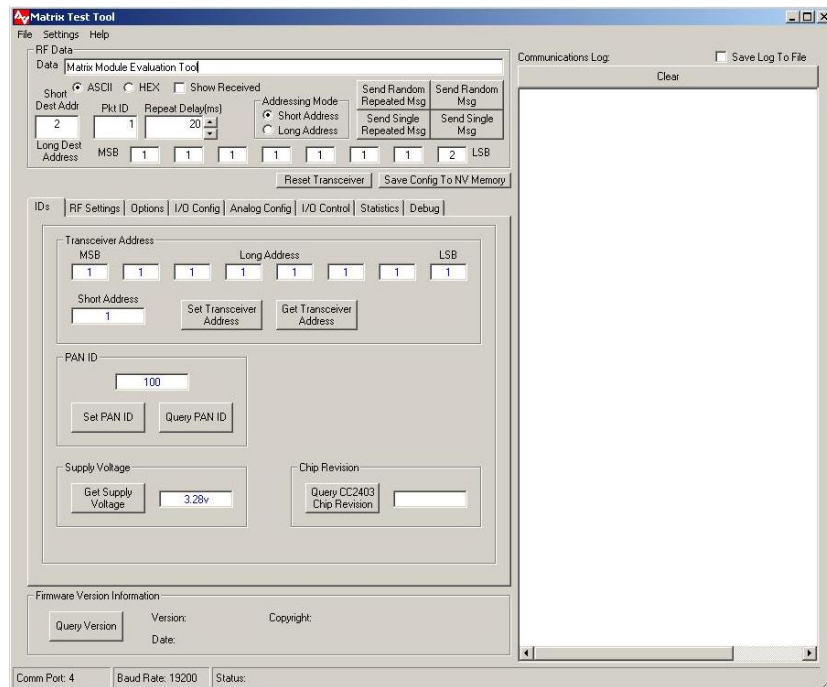

Figure 4-1. Evaluation Software - Main Screen
The Matrix evaluation software was designed to give the developer an ability to quickly test the features built into the Matrix module. The evaluation software is described in the following sections. A screen shot of the evaluation software is shown in Figure 4-1. Developers please refer to Chapter 5 for information on building custom applications for use on the Matrix module.
If the bottom status bar as shown in Figure 4-1 shows a COM port number and a baudrate, then connection with the module has been successful and you can skip to Section 4.2.1.
4.2.1 Main Section of Test Tool (Upper left portion of the Test Tool as shown in Figure 4-1)
4.2.2 Setting Device Identification (See Figure 4-1)
4.2.3 Getting Supply Voltage (See Figure 4-1)
4.2.4 Getting CC2430 Chip Revision (See Figure 4-1)